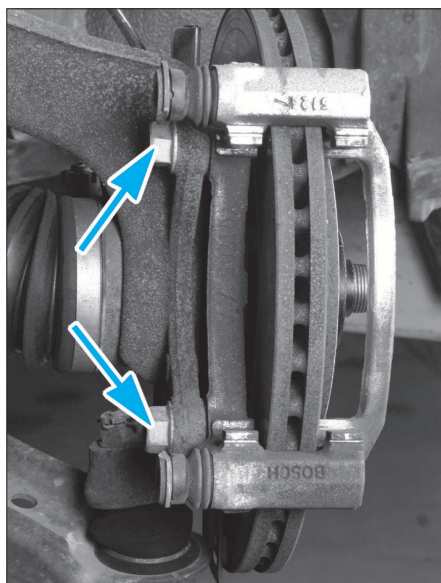

FIG. 4
- le support d'étrier (fig. 4)